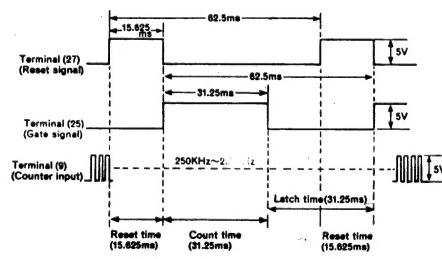

Fig. 8
When this unit is changed over to the frequency indication mode, the dividing ratio during FM and SW is set to 1/40 during FM and to 1/20 during SW depending on the setting of the band selector switch for changing the frequency of the local oscillator. Next, the band selector signal is output to change over the frequency input during FM/SW/MW. The reset signal is obtained at terminal (27) of IC505 from the reference signal generator circuit, and the gate signal, to terminal (25), for timing of the count operation. (Shown in Fig. 8). When the reset signal is at H level for 15.625ms, the internal counter is reset. The gate signal rises simultaneously when the reset signal decays and stays at H level for 31.25ms. The pulses input from terminal (9) of IC505 are counted during this period. This counter is a 6-digit decimal counter and a latch circuit, which temporarily stores the data after completion of counting in each counter. With this latch circuit, terminal (25) resets memory at H level and the data is temporarily stored just before becomes L level. Data from each latch circuit is transferred to the microcomputer divided into 6 to match the timing of the 6-phase signal produced inside IC505. Terminal(23) (24) are always set to H level to operate the 6-digit decimal counter.